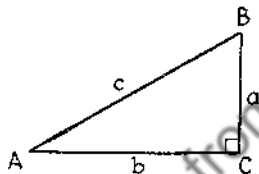

Fig. 17
Referring to fig. 17 if  $C$  is a right angle, then  $c^2 = a^2 + b^2$
(1) Referring to fig. 17: (a) if  $a = 4$  in. and  $b = 6$  in., calculate  $c$ ;